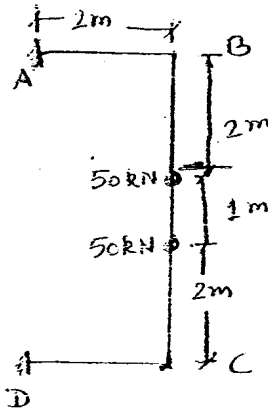

Fig 8
Q.8 A Beam is bent in plan and loaded as shown in Fig.8. What is the statical indeterminacy of this beam? Analyze the beam and plot its Bending and Torsional moment diagrams. Take $EI/GJ = 1.5$. (12.5)